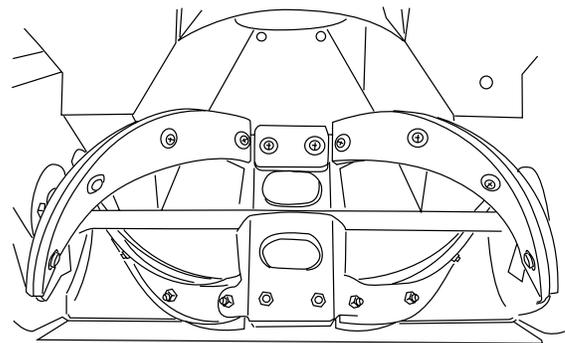

Figure 21
- Detach the worn rubber plate assembly by removing the 2 sets of nuts and bolts used to secure it (Fig. 21, 22).
- Install the new rubber plate assembly by tightening 2 sets of nuts and bolts on both sides (Fig. 21).